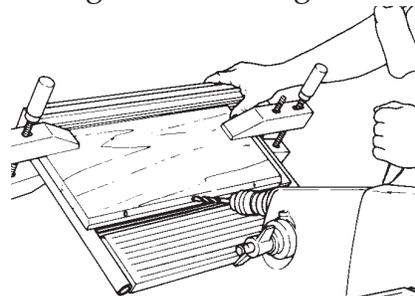

Figure D-37
1. Mount the rip fence on the table to use as a backstop. Tilt the table toward the headstock and clamp the stock to the table. See Figure D-37. If the angle is acute and you're boring through the stock, place scrap wood on the table and the rip fence.